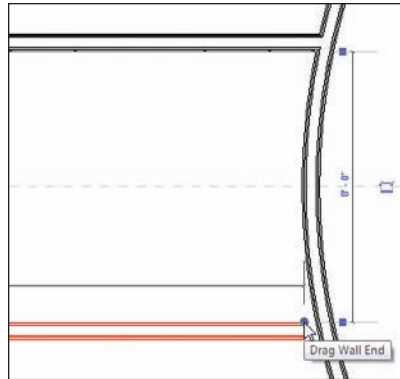

FIGURE 2.36 Getting a grip on the grips!
3. Repeat the step for the bottom wall (see Figure 2.36).